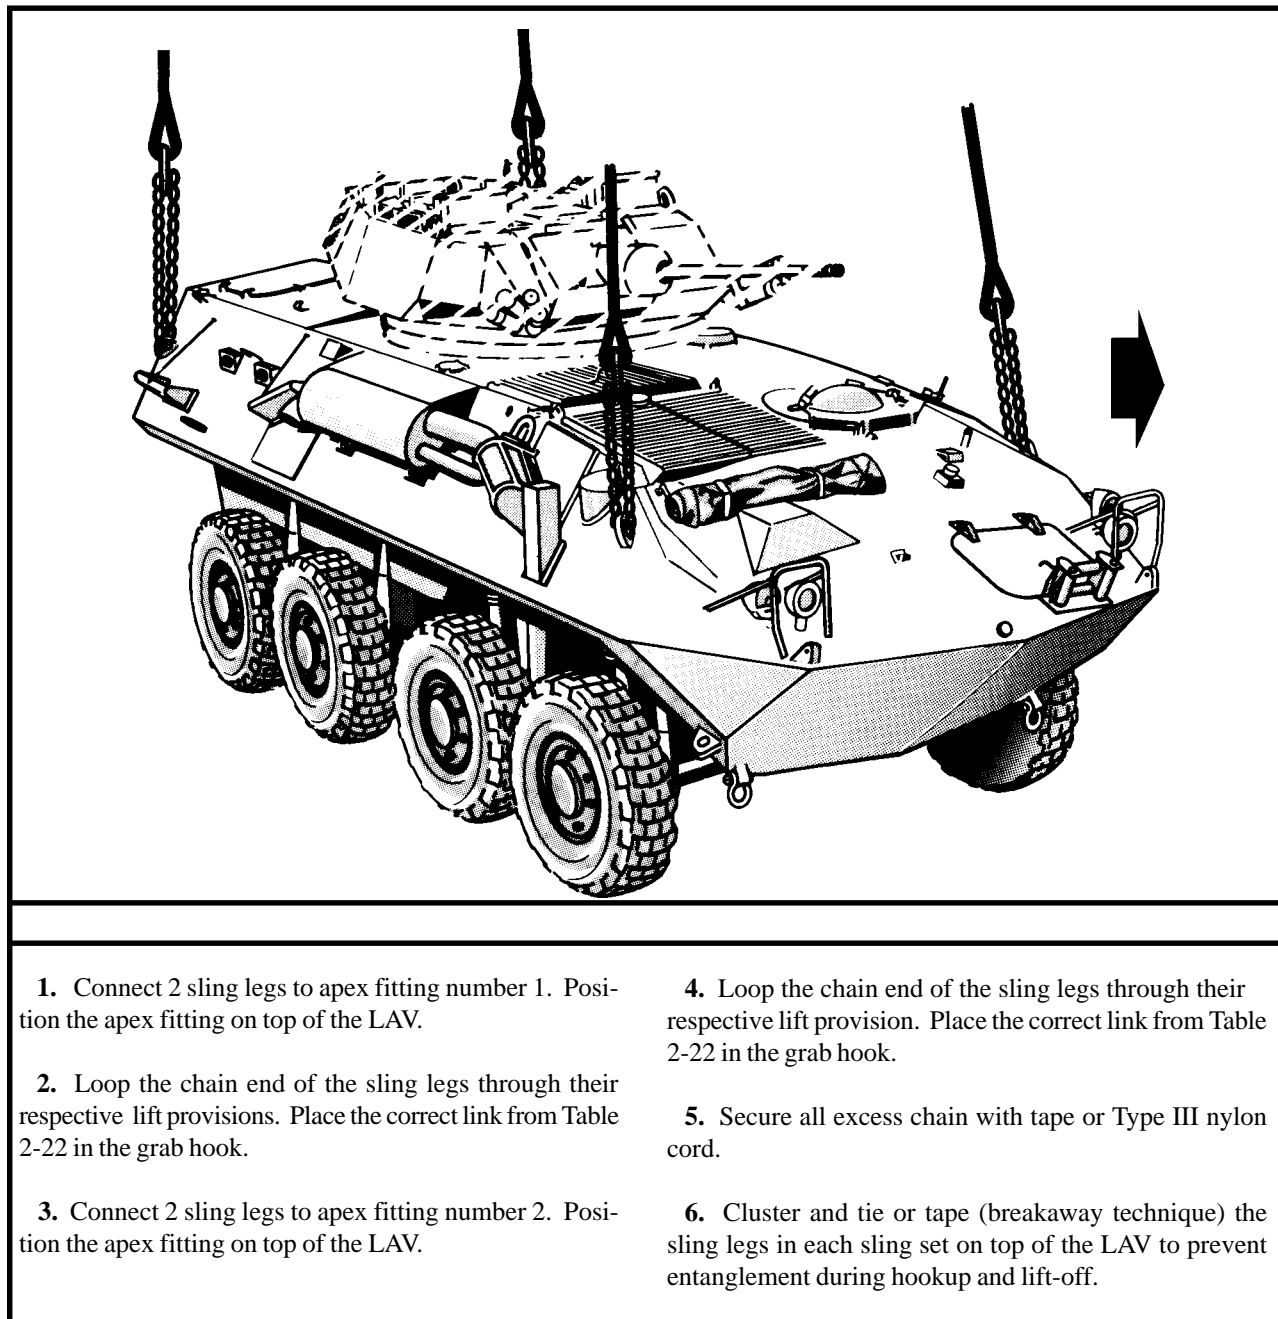

Figure 2-21. Light Armored Vehicle (LAV)
(2) **Rigging.** Rig the load according to the steps in Figure 2-21.
(4) **Derigging.** Derigging is the reverse of the preparation and rigging procedures in steps d (1) and d (2).